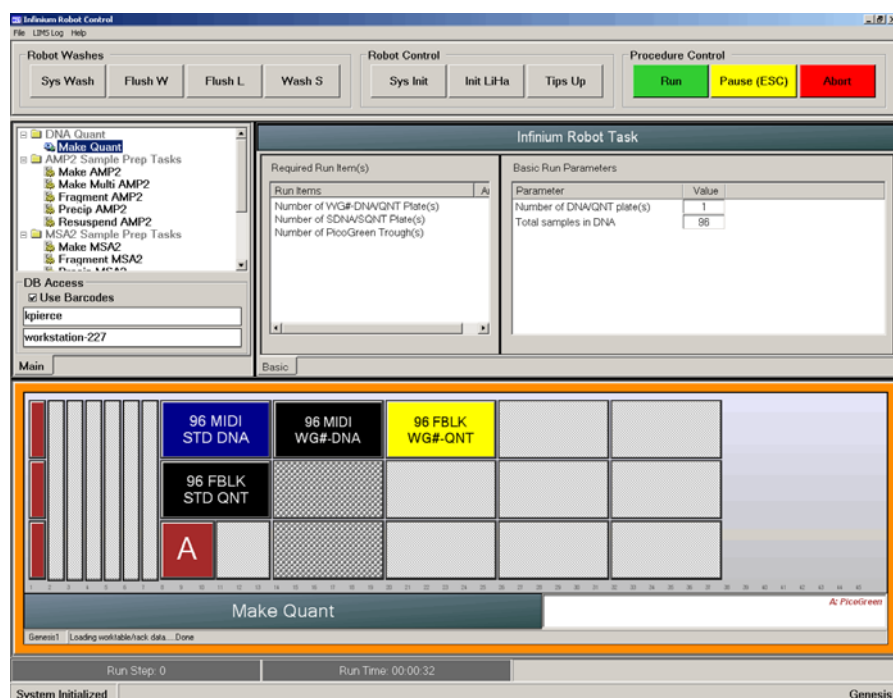

Figure 81 Make Quant Screen
6. Place the WG#-DNA plate(s) on the robot bed according to the bed map (Figure 81). Remove any plate seals.